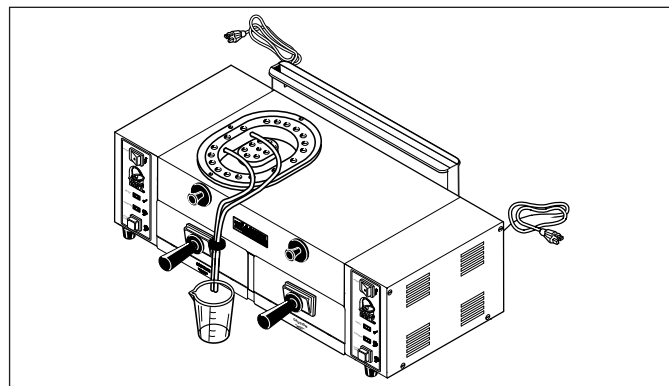

Figure 9. Water Measurement
4. Put other end of Calibration Tubes into the Calibration Cup (Figure 9).